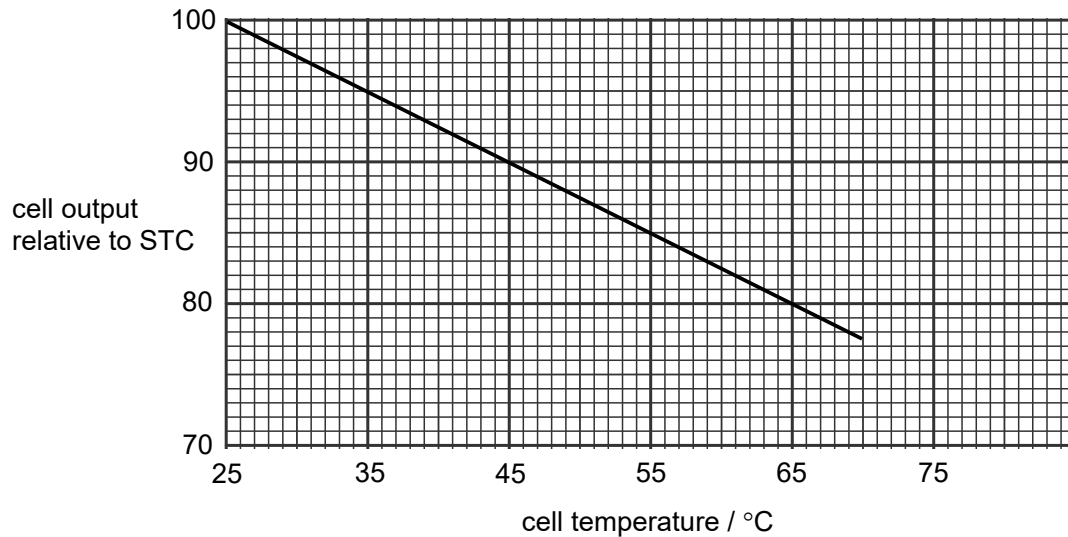

Fig. 22.3
The output of a PV cell is measured relative to that of a cell at Standard Test Conditions (STC) at the temperature of 25 °C. Fig. 22.3 shows the variation with temperature of the relative output of a PV cell using crystalline silicon technology.
- (iii) Hence, sketch in Fig. 22.3, the graph to show the variation of the output of the thin film PV cells with temperature.